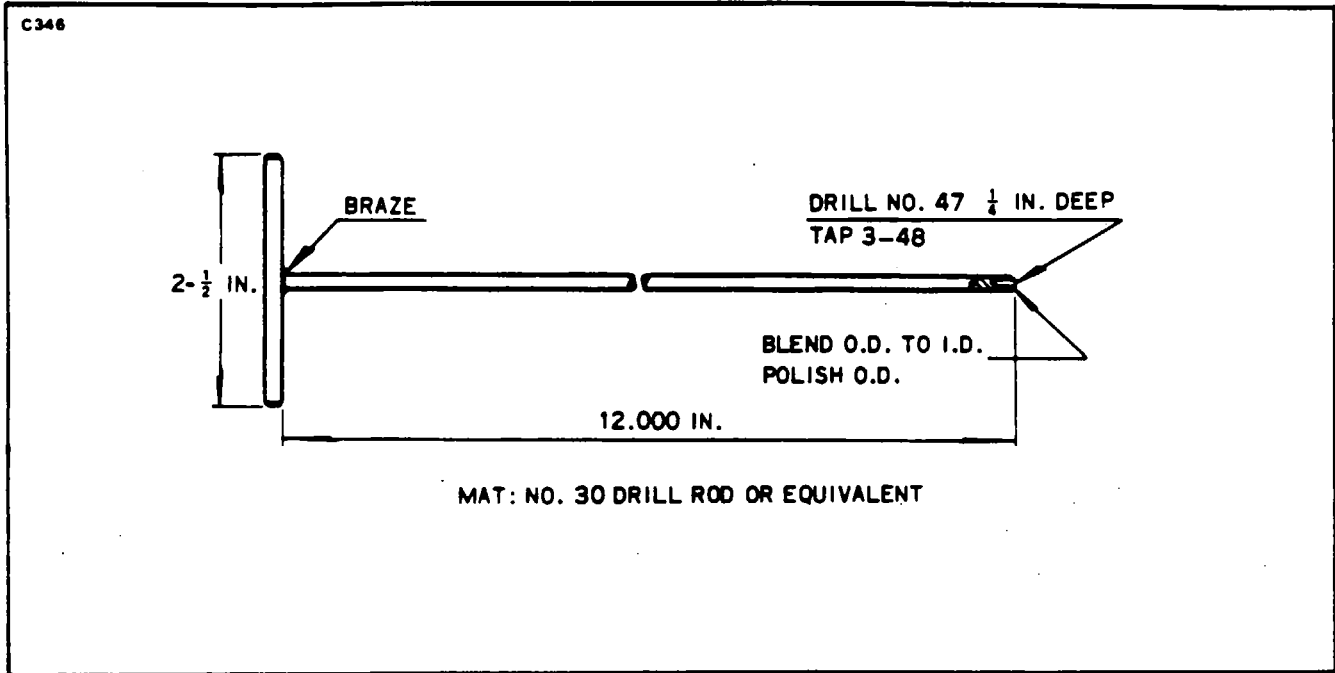

Figure 74-24. Assembly Tool
- A. Fabricate a tool as shown in Figure 74-24 for installing the insulating sleeves over cable terminals.